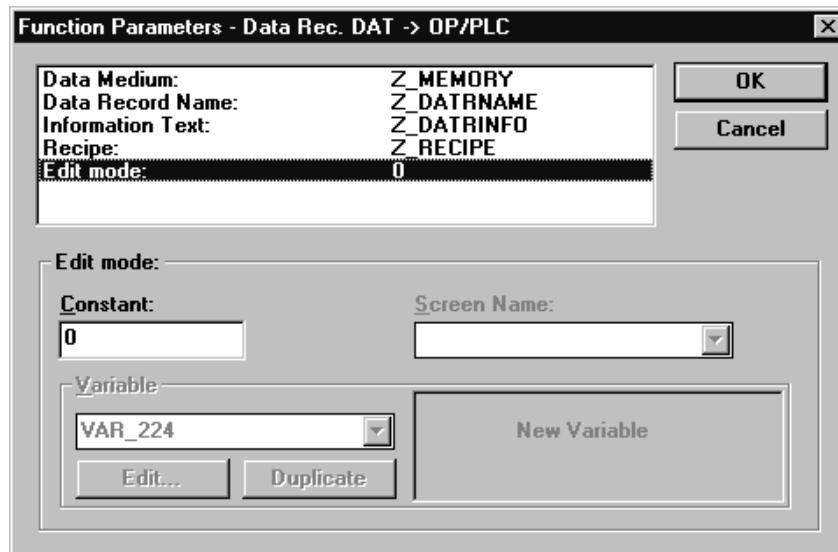

Figure 9-4 Assigning Parameters for the DAT → OP/PLC Function
6. Click *Parameters* and assign the parameters as described below. In doing so, always choose the variable specified under *Variable*. Figure 9-4 shows the dialog box with the parameters.